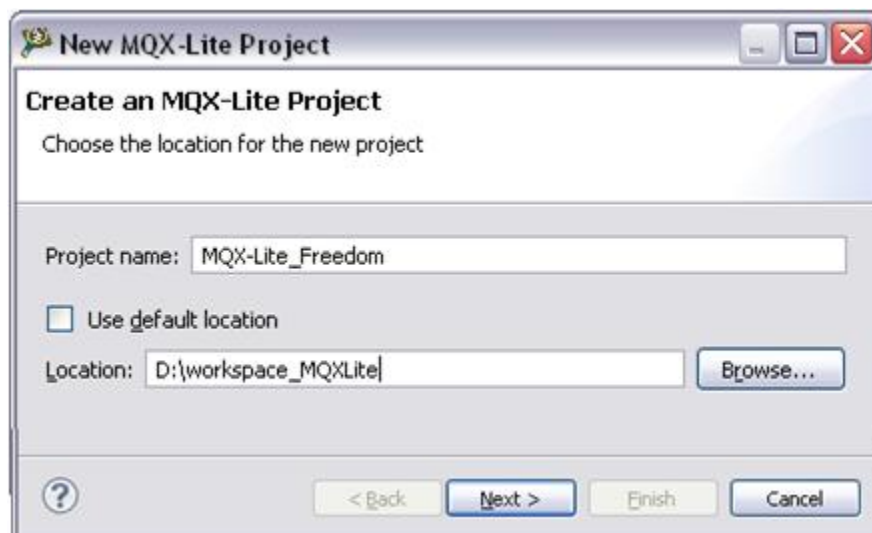

Figure 4. New MQX-Lite project wizard – Name and Location
2. The New MQX-Lite Project wizard starts and requests a name and location for the project. In this case the name MQX-Lite_Freedom and D:\workspace_MQXLite are used. To finish this step click on the Next > button at the bottom of the window. See Figure 4.